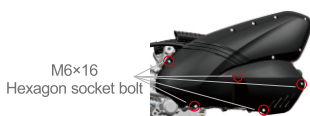

Figure 2
1. As shown in Figure 2, remove 5 bolts and remove the left cover of the air engine.
13. Install back to the left engine cover as shown in Figure 2.